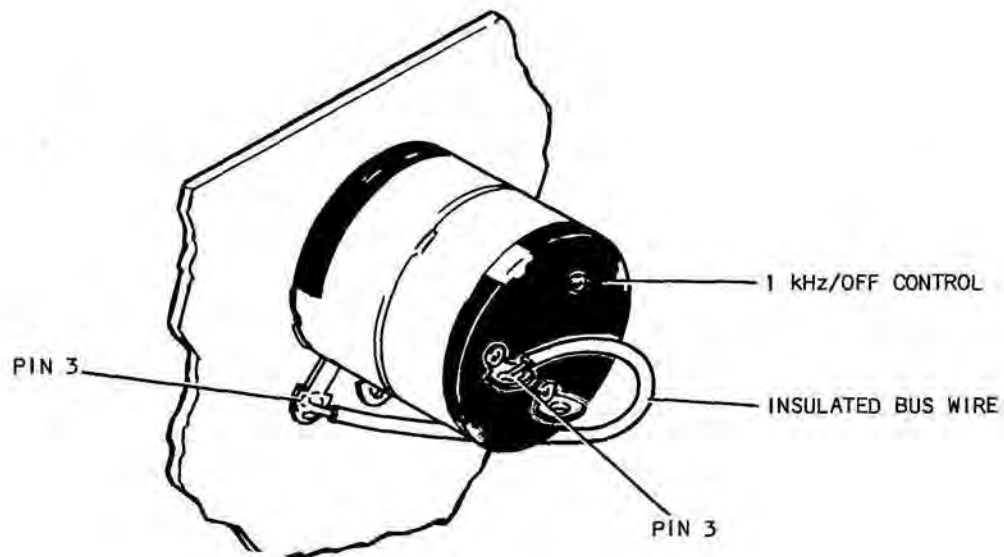

Figure 6-10 1 kHz/OFF Control Installation
- C. 1 kHz/OFF Control (4) by attaching:
- 1. Control (4) and lock washer (5) through rear of panel.
- 2. Flat washer (69) and hex nut (68) to secure control (4) at front of panel.
- 3. Ensure that control is installed as shown in Figure 6-10 before soldering wires.